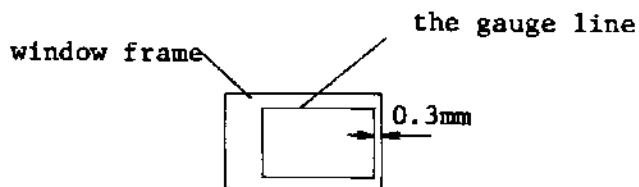

fig. 3
- Make sure that the window shows an aperture figure properly in the center, and that the next figure should not be insight. When use J18063, the guideline should be visible 0.3mm from the window edge line. (Fig. 3)